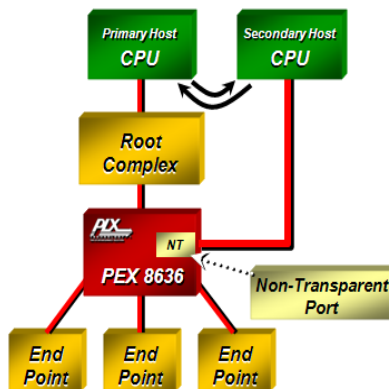

Figure 3. Non-Transparent Port
In Single-Host mode, the PEX 8636 supports a **Non-Transparent (NT) Port**, which enables the implementation of **dual-host systems** for redundancy and host failover capability. The NT port allows systems to isolate host memory domains by presenting the processor subsystem as an endpoint rather than another memory system. Base address registers are used to translate addresses; doorbell registers are used to send interrupts between the address domains; and scratchpad registers (accessible by both CPUs) allow inter-processor communication (see Figure 3).